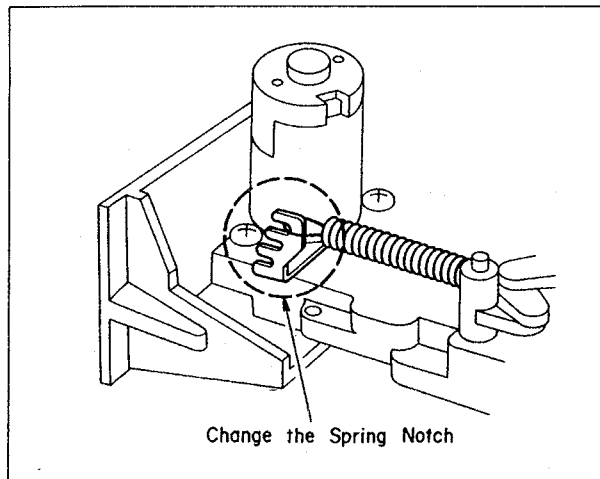

Fig. 23
3. If it is out of specification, change the spring notch as shown in Fig. 23.